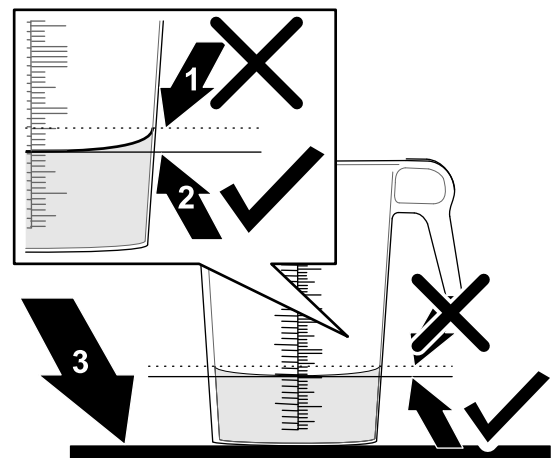

Figure 38
6. Set the graduated container on a level surface and note the fluid volume (Figure 38).